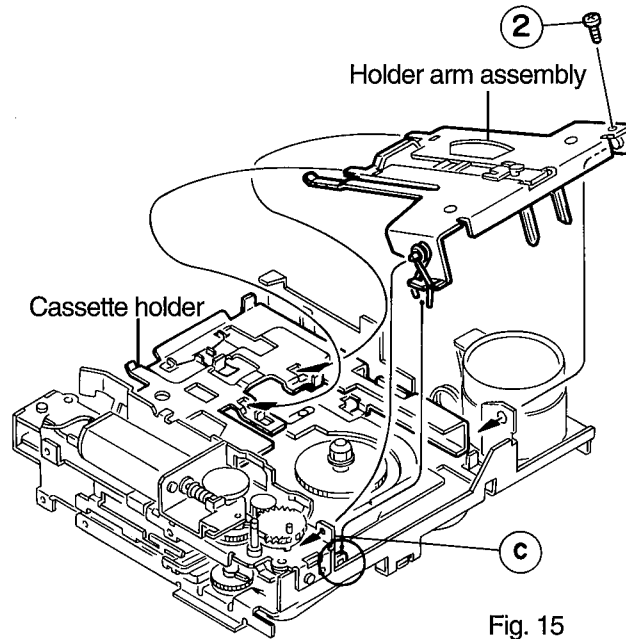

Fig. 15
5. While attaching the holder arm assembly to the cassette holder, insert the shaft of the holder arm assembly into the interlocking section © of the sub chassis assembly as shown in Fig. 15.
7. After the holder arm assembly is installed, secure it with the screw ② .( See Fig. 15 )